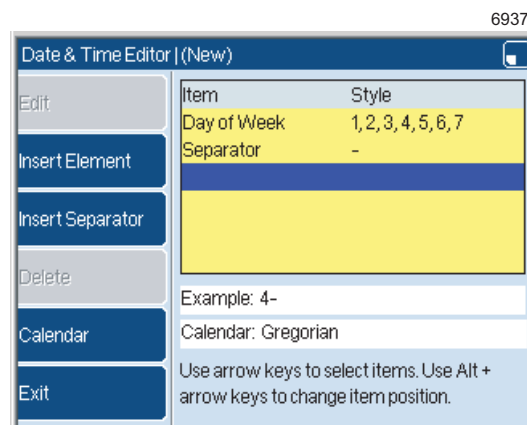

Figure 28. Date and Time format with two elements
- 3 At the **Date & Time Editor** page, move the highlight to the empty position, as shown in Figure 28 on page 25, then press the **Insert Element** key.